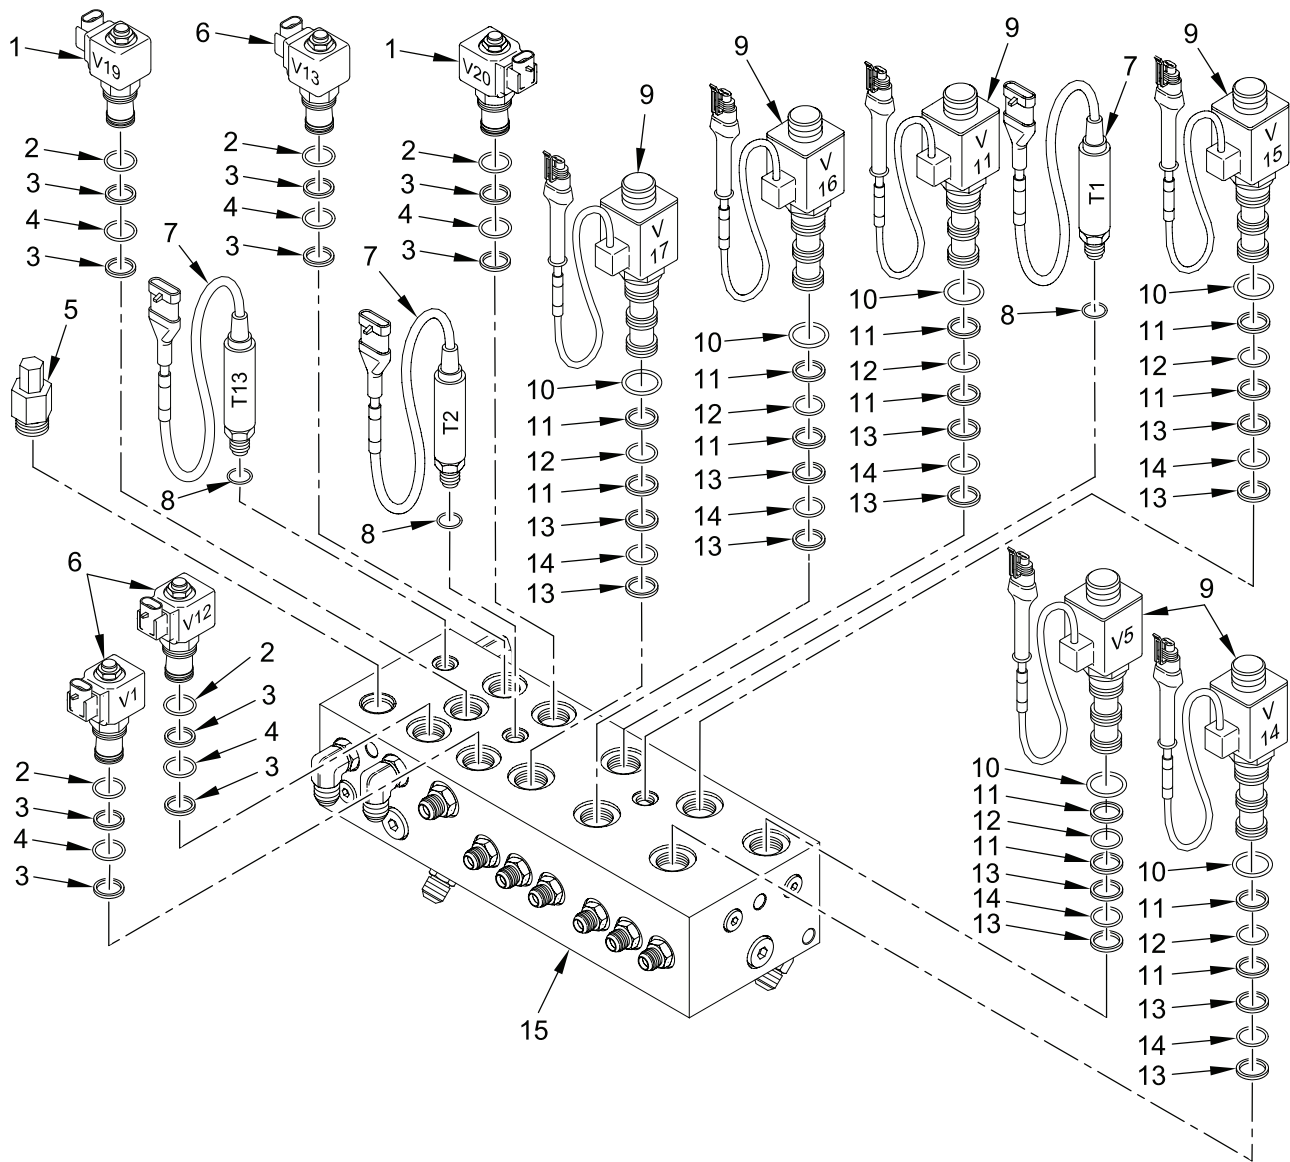

Figure 2. Removing Transducers and Valves From Primary Manifold
3. Remove three transducers (Figure 2, item 7), three o-rings (Figure 2, item 8), and relief valve (Figure 2, item 5), from primary manifold (Figure 2, item 15). Discard o-ring.
4. Remove six three-way valves (Figure 2, item 9), six teflon backups (Figure 2, item 13), six o-rings (Figure 2, item 14), six teflon backups (Figure 2, item 13), six teflon backups (Figure 2, item 11), six o-rings (Figure 2, item 12), six teflon backups (Figure 2, item 11) and six o-rings (Figure 2, item 10) from primary manifold (Figure 2, item 15). Discard o-rings and teflon backups.
5. Remove two NC valves (Figure 2, item 1), two teflon backups (Figure 2, item 3), two o-rings (Figure 2, item 4), two teflon backups (Figure 2, item 3), and two o-rings (Figure 2, item 2), from primary manifold (Figure 2, item 15). Discard o-rings and teflon backups.
6. Remove three NO valves (Figure 2, item 6), three o-rings (Figure 2, item 2), three teflon backups (Figure 2, item 3), three o-rings (Figure 2, item 4) and three teflon backups (Figure 2, item 3), from primary manifold (Figure 2, item 15). Discard o-rings and teflon backups.